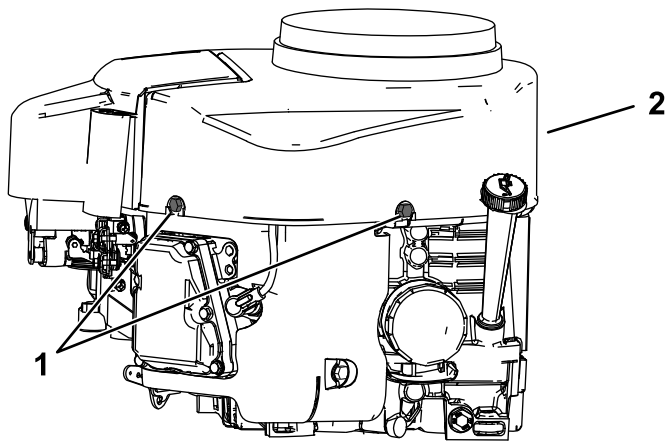

Figure 37
4. Loosen the bolts and remove the fan housing (Figure 37).